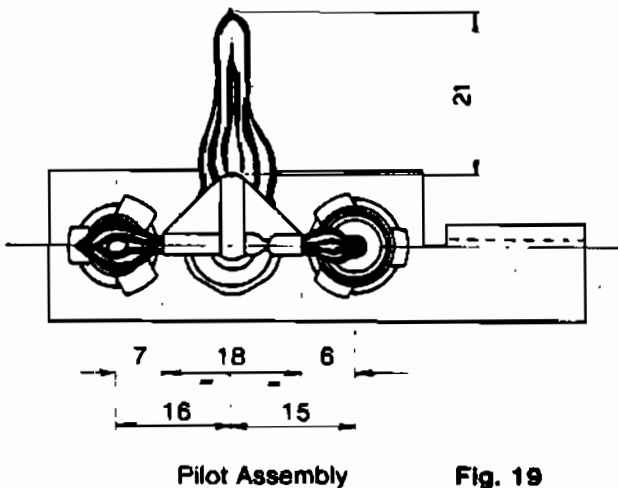
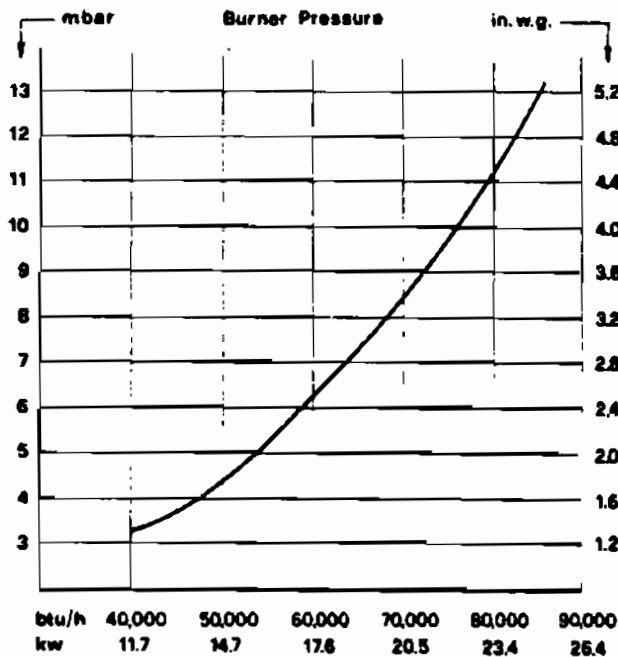

Fig. 19
Fig. 22 Central heating output
6.5.5 Once the pilot burner ignites stop pressing the Piezo unit button but continue to hold in the gas control knob for a further 15 seconds before releasing. The pilot flame should remain alight and envelope the thermocouple (see fig 19). If it goes out wait 3 mins and repeat from 6.5.4
6.5.6 Refer to fig 19 and check that the pilot flame is correctly set. If it is necessary to adjust the pilot refer to cl. 6.6.8.3 for access instructions, Fig 22 for location of regulator screw. Turning clockwise decreases flame.
First refer to fig 22 to establish the burner pressure needed to give the heating output you need (e.g. for 17.6kW a pressure of 6.25mbar is needed).